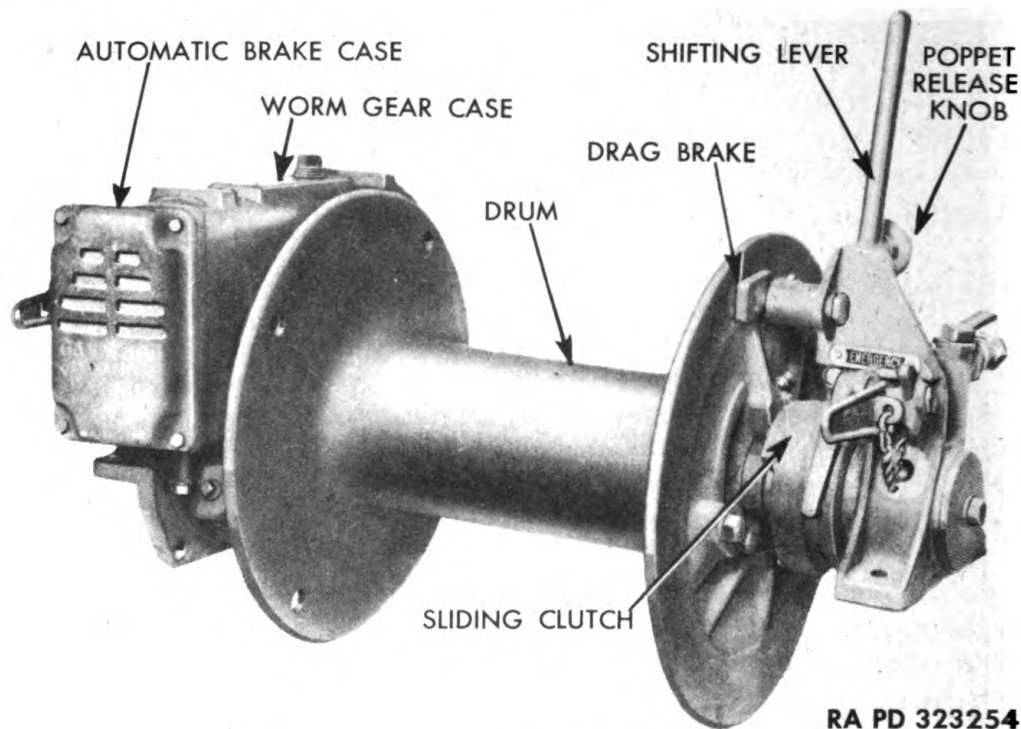

Figure 261 — Winch Without Cable
a. The Gar Wood Winch, Model US-15T, is mounted on two main frame side channels at front end of tractor (fig. 261). It is protected by the front bumper. The winch is driven by a winch drive shaft which connects the winch worm by a shear pin, and connects the drive shaft in the transmission by a splined coupling. The shear pin protects the winch and cable from overload. The winch drive in the transmission makes it possible to wind or unwind the cable, and the two-way engine clutch gives two wind and two unwind speeds with a given engine speed. The winch drive consists of a worm, worm gear, drum shaft, sliding clutch, and winch drum. The worm rotates in two bearings in the upper gear case. It drives the worm gear which is mounted on the drum shaft. Also mounted on the drum shaft is the sliding jaw clutch which is keyed to the shaft. When the clutch is moved away from the drum by a shifting lever, it is disengaged, and the drum rotates freely on the shaft. When the clutch is moved toward the drum, its jaws engage mating jaws on the side of the drum, and the drum rotates with the shaft. An automatic brake is constantly applied to a brake disk on the front end of the winch worm, and holds the load suspended when the engine clutch is disengaged. A drag brake, applied to the drum, automatically keeps the drum from spinning and the cable from unwinding too rapidly, when the cable is pulled off by hand.